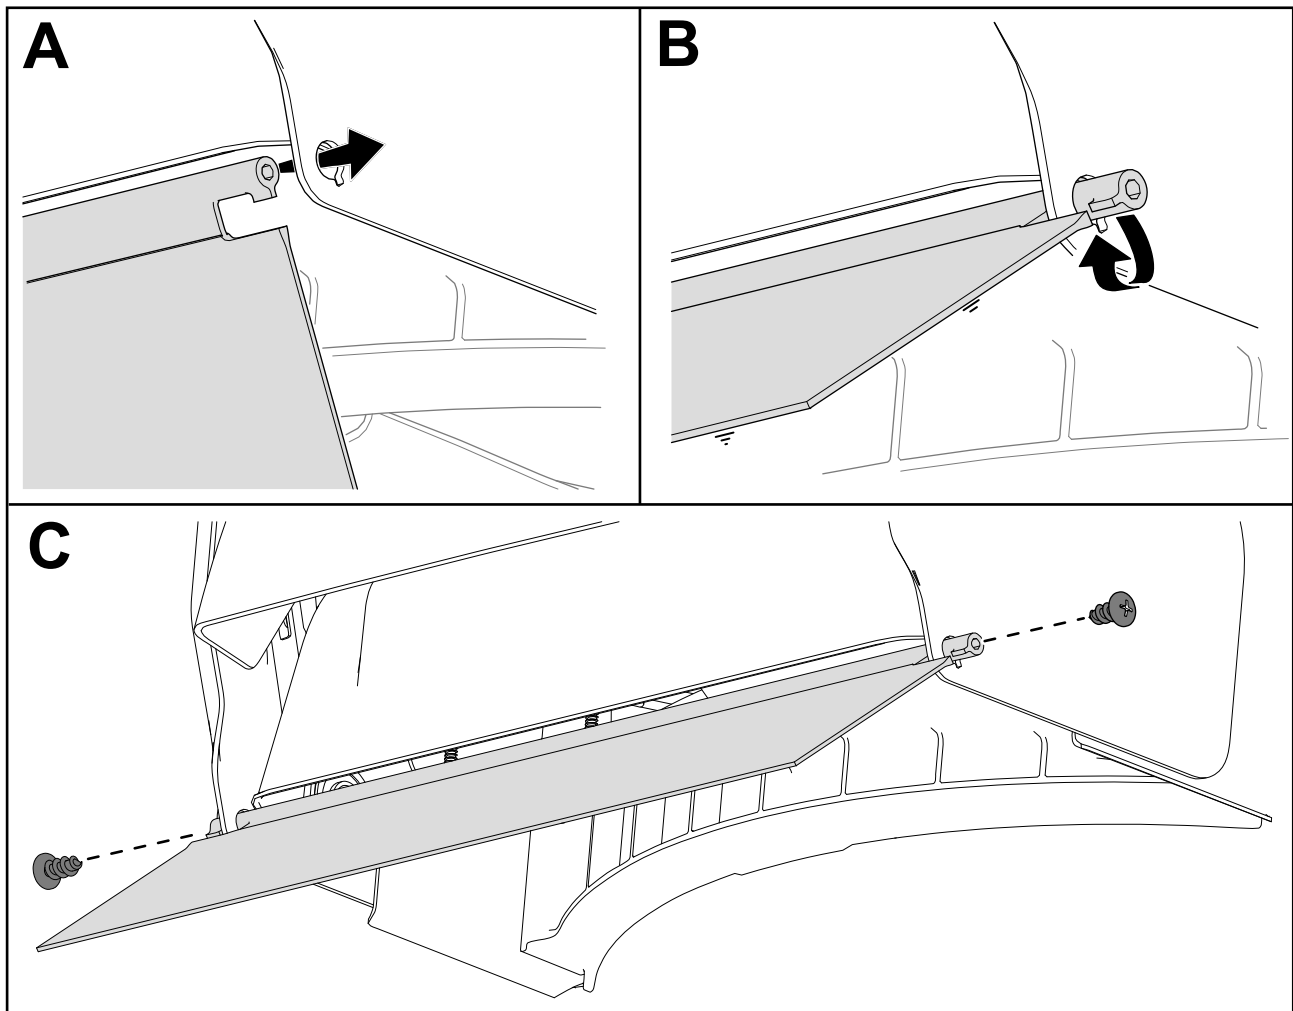

Figure 3
1. Install the trailing shield through the side-plate holes (Figure 3).
2. Use the 2 screws to secure the trailing shield to the machine (Figure 3).